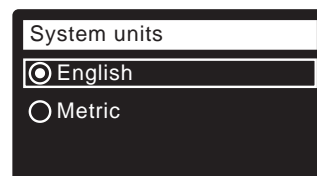

FIG. 26
17. **SYSTEM UNITS** If the desired system already has a dot next to it (See Figure 26), go to Step 18. Otherwise, press the DOWN (▼) or UP (▲) buttons to scroll to the desired system, then press the SELECT (O) button to choose it.
18. Press the SELECT (O) button.